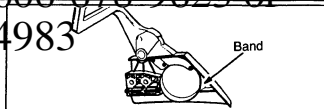

Figure 34
2. **Clean the entire mechanism thoroughly** every 10 tanks of fuel or every 5 hours of operation, whichever is less. *Do not allow oil or grease to get on the band or drum.* Figure 34.